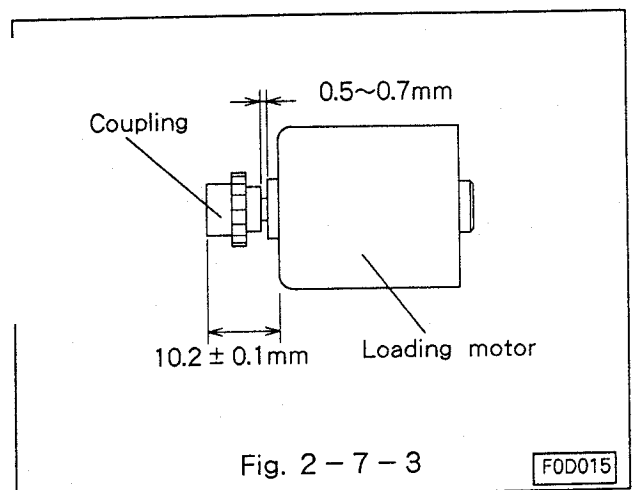

Fig. 2-7-3
- Fasten the coupling to a new loading motor. (Refer to Fig. 2-7-3.)